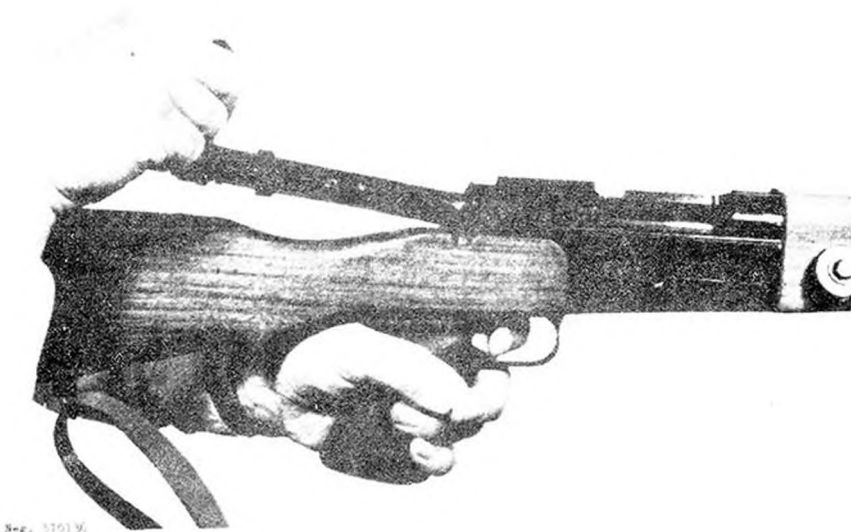

Figure 137. FR-F1 bolt removal.
a. To disassemble the FR-F1 rifle for cleaning, clear the rifle (para 176f), but do not reset the safety to safe or replace the magazine. Remove the check pad (para 176f), open the bolt, pull the trigger fully rearward and, while holding the trigger, remove the bolt (fig 137).